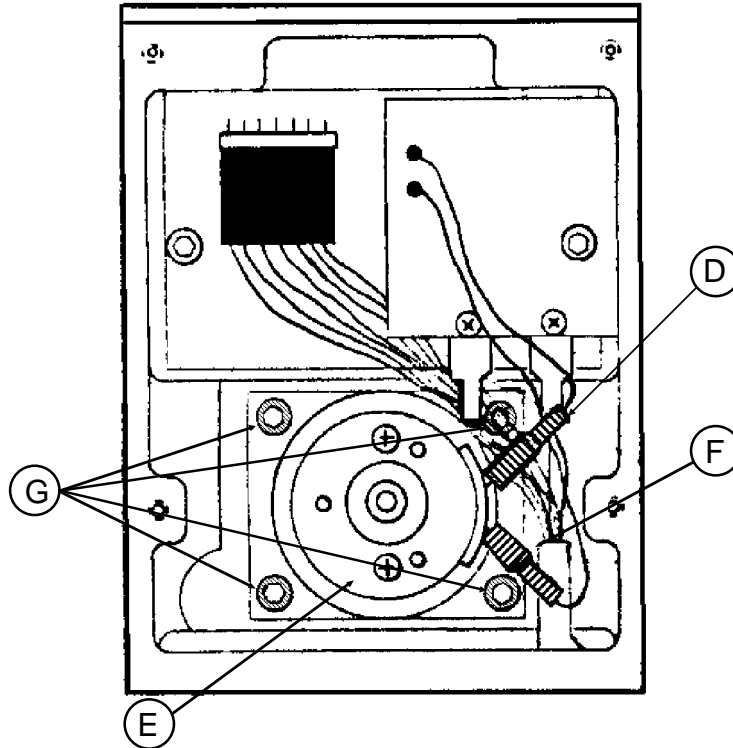

Figure 2
3. Unplug the purple Motor Wire (Figure 2-D) from the Color Change Motor (Figure 2-E).
4. Unplug the gray Motor Wire (Figure 2-F) from the Color Change Motor.
5. Remove the four Retaining Screws (Figure 2-G) holding the Color Change Motor in the Color Change Tower.